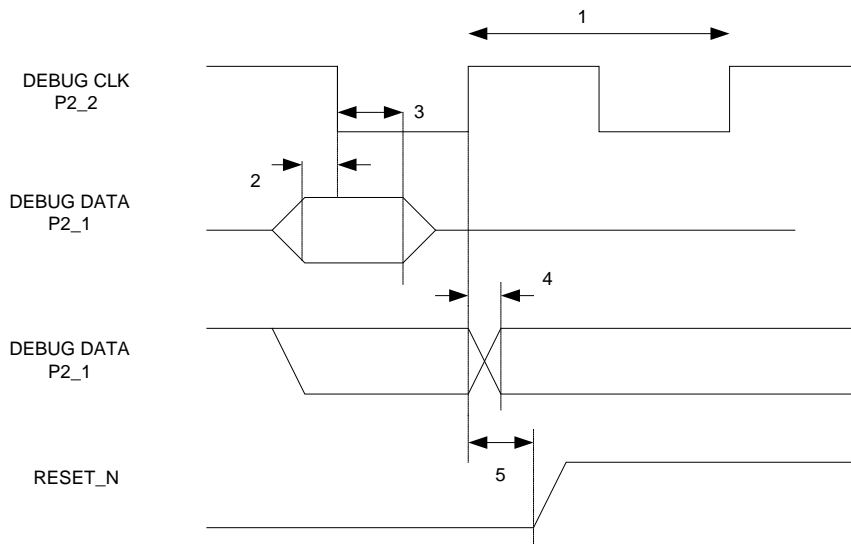

Figure 6: Debug Interface AC Characteristics
| Debug clock period | 125 | | | ns | See item 1, Figure 6 Note: CLKCON.CLKSPD must be 000 or 001 when using the debug interface |
| Debug data setup | 5 | | | ns | See item 2, Figure 6 |
| Debug data hold | 5 | | | ns | See item 3, Figure 6 |
| Clock to data delay | | | 10 | ns | See item 4, Figure 6, load = 10 pF |
| RESET_N inactive after P2_2 rising | 10 | | | ns | See item 5, Figure 6 |